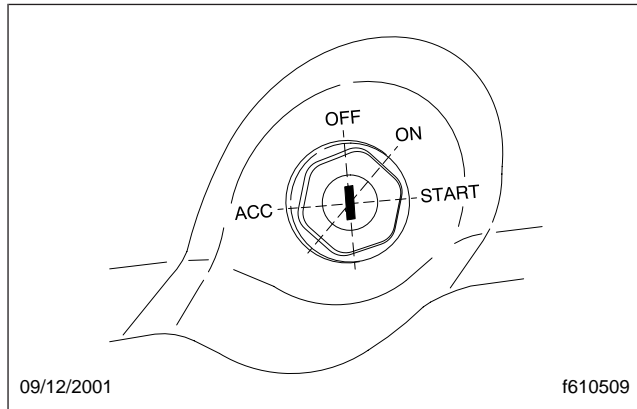

Fig. 16.7, Ignition Switch Positions
4. Ensure that the transmission shift control is in Neutral (N), Park (P), or the Park Brake (PB) position.
- Without starting the engine, turn the ignition switch to the ON position (**Fig. 16.7**). The electronic gauges on the instrumentation control unit (ICU) will complete a full sweep of their dials, the warning and indicator lights will illuminate, and the buzzer will sound for three seconds.